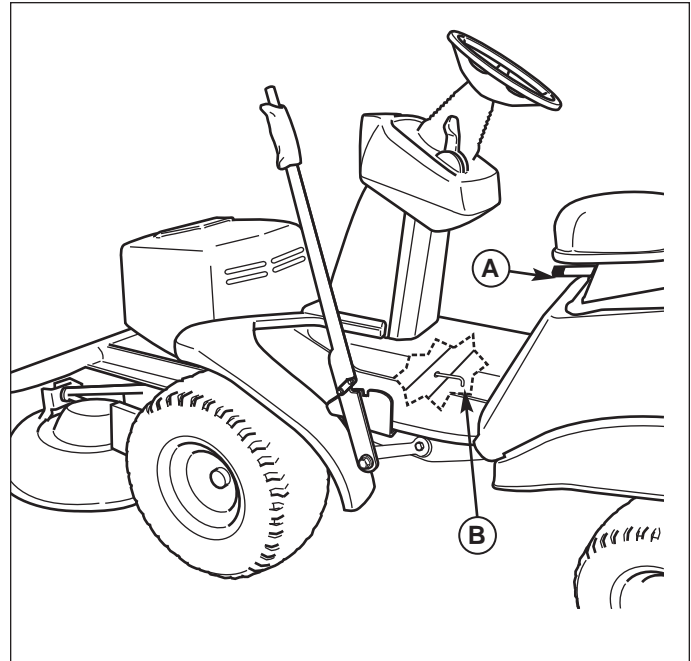

Figure 21. Seat Adjustment
The seat can also be adjusted forward and back. Move the lever (A, Figure 21), position the seat as desired, and release the lever to lock the seat into position.
4. While holding the forward ground speed pedal down, engage and disengage the transmission release valve lever (B, Figure 21) several times.
6. While holding the reverse ground speed pedal down, engage and disengage the transmission release valve lever (B) several times.